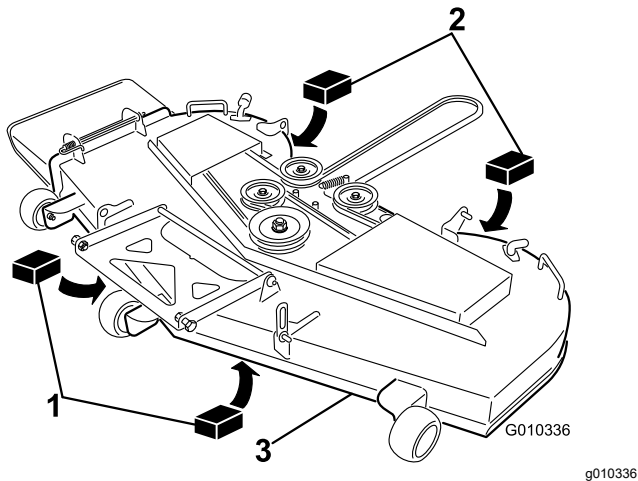

Figure 62
3. Place 2 blocks, each having a thickness of 6.6 cm (2-5/8 inches), under each side of the front edge of the deck but not under the anti-scalp roller brackets (Figure 62).
4. Place 2 blocks, each having a thickness of 7.3 cm (2-7/8 inches), under the rear edge of the cutting deck skirt, 1 on each side of the cutting deck (Figure 62).